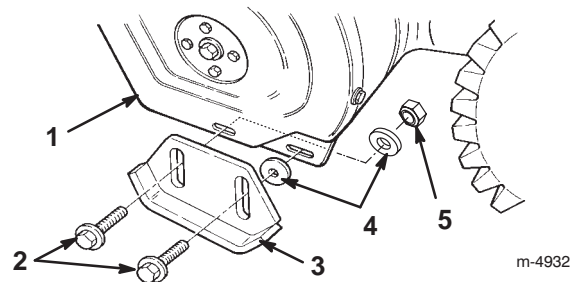

Figure 17
3. Remove the 2 flange bolts and flat washers that secure the ends of the scraper to the side plates (Fig. 17).
5. Insert a washer **between each skid and the side plate** (Fig. 17). Do not tighten the bolts.
7. Insert a washer and a locknut **behind (on the inside of) the side plate** (Fig. 17). Do not tighten the bolts.